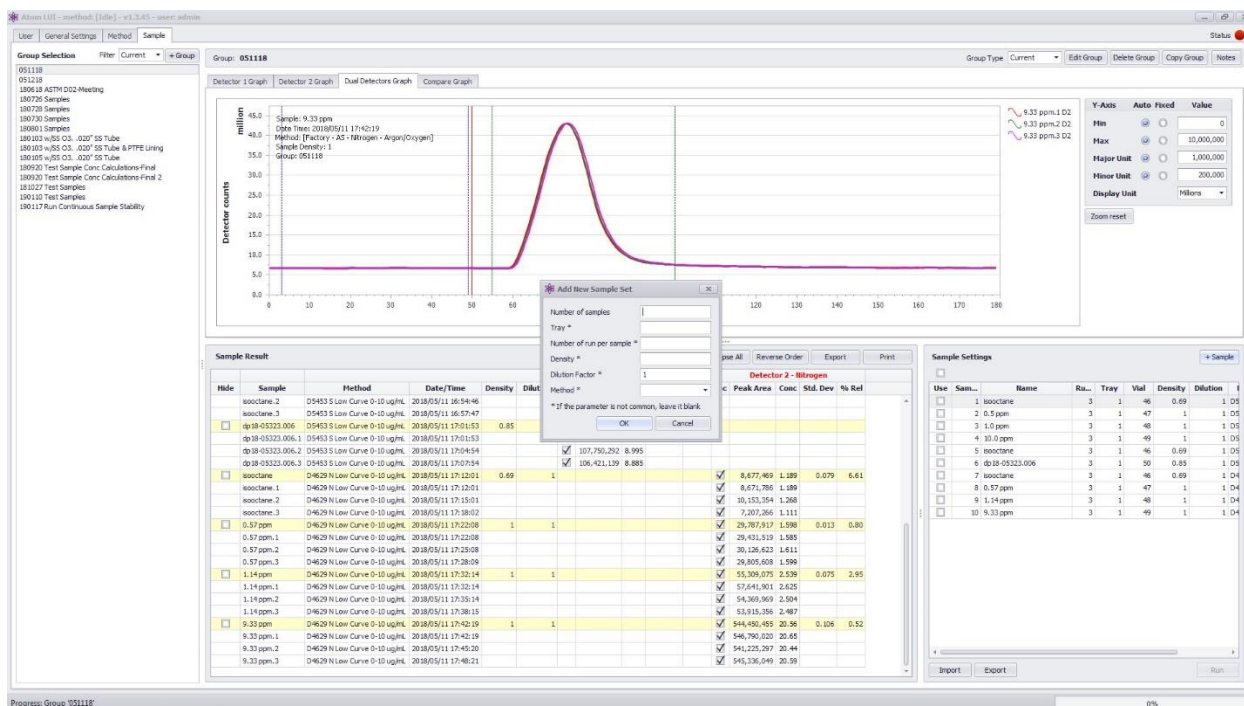

Figure 18 Sample Tab
- Select the “Sample” tab (*Figure 18*)